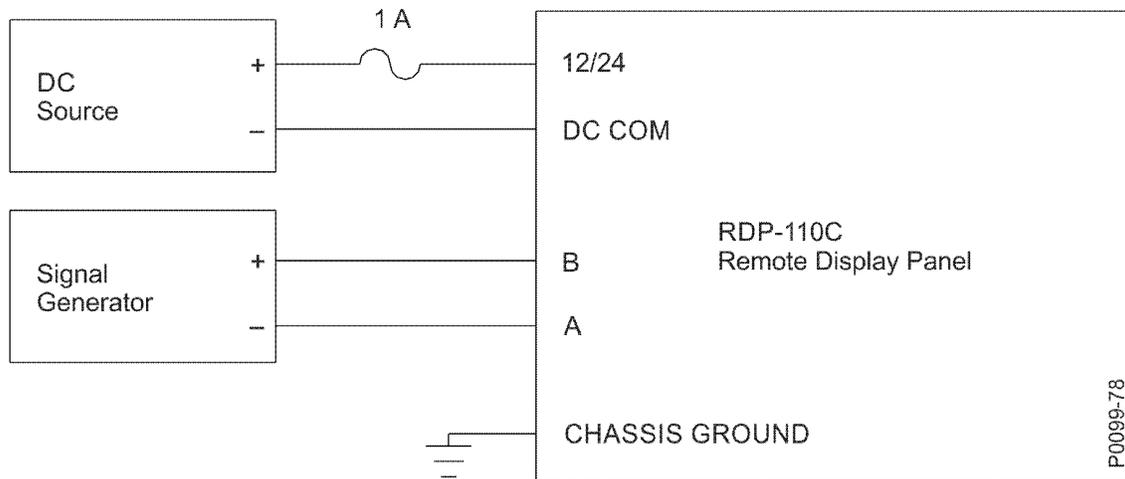

Figure 11. RDP-110C Test Setup
Equipment needed for testing RDP-110C operation is listed below. Connections for the test are illustrated in Figure 11.
1. Connect the RDP-110C test setup as shown in Figure 11.